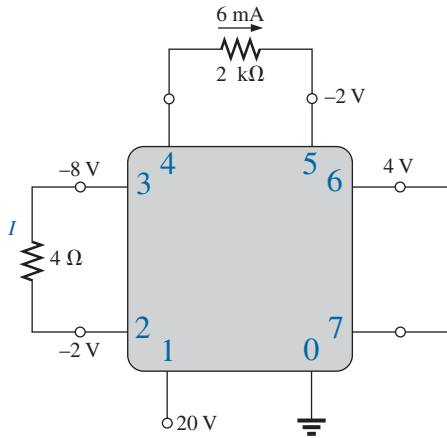

FIG. 5.125
- *42. For the integrated circuit in Fig. 5.125, determine V_0 , V_4 , V_7 , V_{10} , V_{23} , V_{30} , V_{67} , V_{56} , and I (magnitude and direction.)